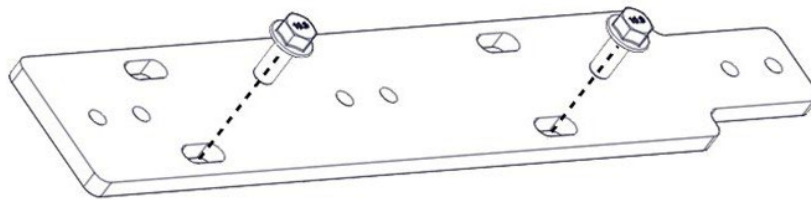

Figure 46.
5. Remove the two bolts on the lock-off plate bracket (Figure 46).